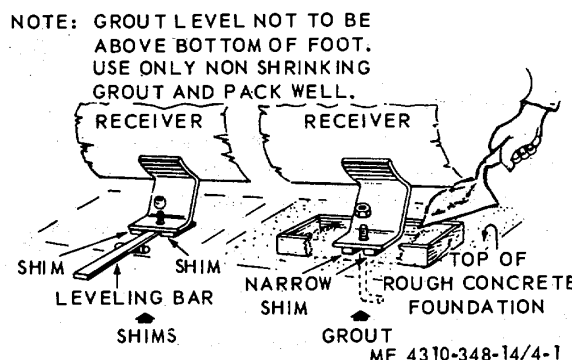

Figure 4-1. Leveling the air receiver.
(1) Position feet over bolts, start nuts on bolts.
(2) Tighten evenly any three of the nuts, to a moderate torque, then check the unit for level. If not level, insert metal shims, or grout (fig. 4-1) under one or two of the feet to obtain level, and re-tighten the nuts.